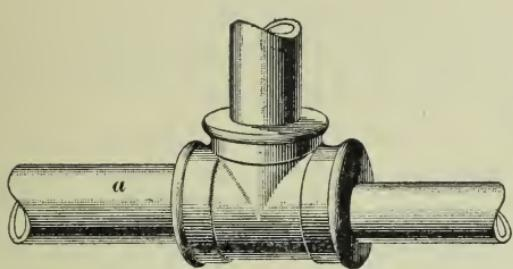

FIG. 48
**64.** Offset fittings can also be had in the form of tees, crosses, couplings, etc. Fig. 48 shows an **eccentric tee**. The object of this fitting is to prevent lodging places for water in the main *a*, which is always the case where the ordinary reducing fitting placed horizontally is used.